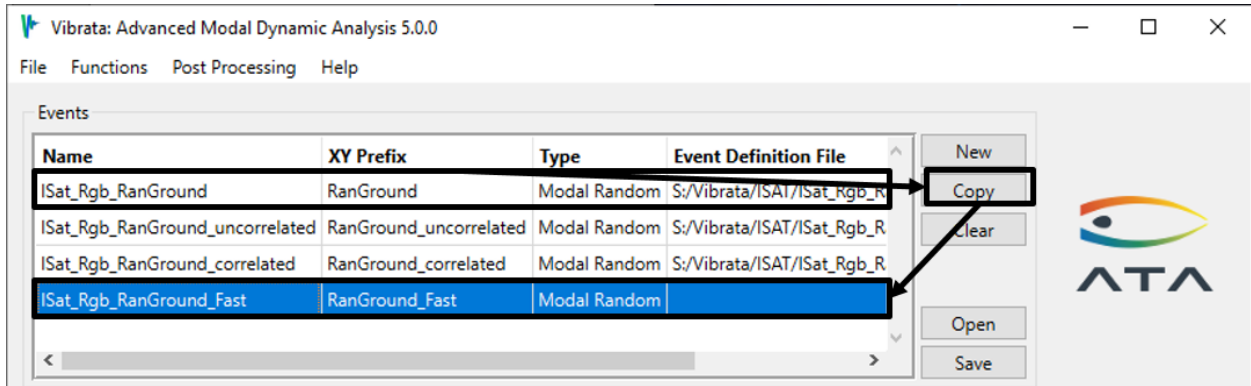

Figure 4-67. Copy the original rigid-base event; the new one will use FastRMS contour calculations.
1. In the Event Manager, copy the original rigid-base event from section 4.3.2 using the **Copy** button and then assign a new name to the new event (Figure 4-67).